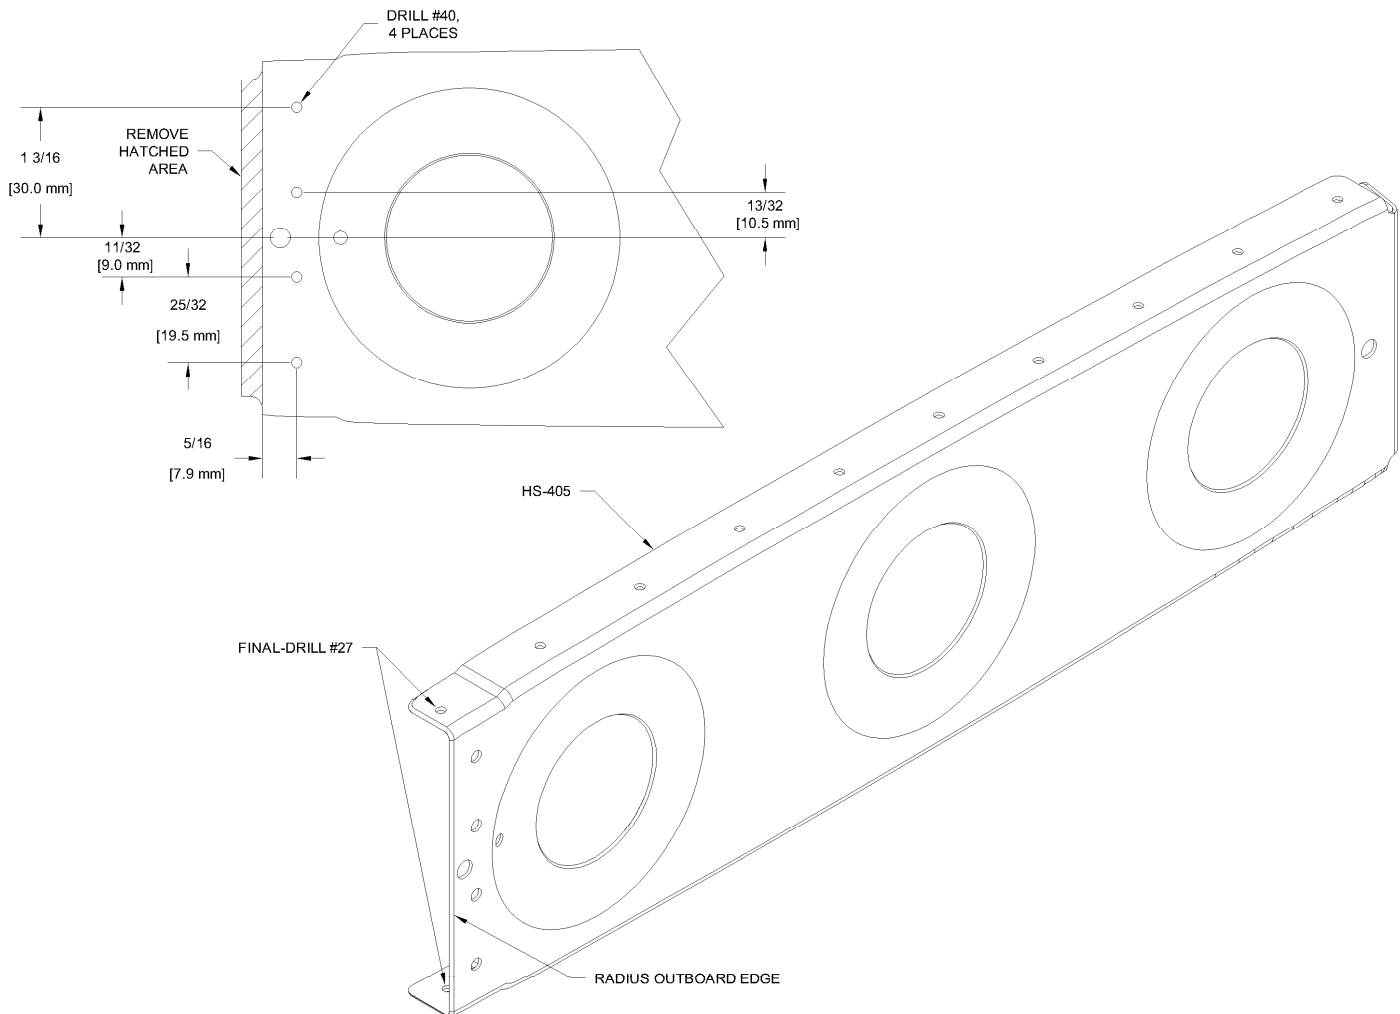

FIGURE 5: MAIN RIB PREP
Step 11: Radius the outboard forward “cut” edge as shown in Figure 5.
Step 12: Mark then drill #40 the four locations shown in Figure 5 for each HS-405 Main Rib.
Step 13: Final Drill #27 the fwd most hole in the top and bottom flange of the main ribs as shown in Figure 5.